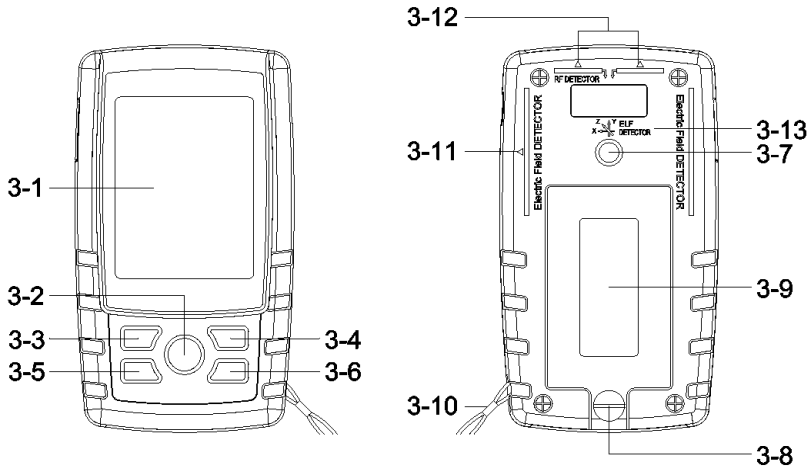

Fig. 1
(3-2, Fig. 1) > 1.5 seconds continuously.
* *Pressing the " Power Button " (3-2, Fig. 1)
During the measurement, press the " Hold Button " (3-3, Fig. 1) once will hold the measured value & the " HOLD Symbol " indicator will be light, Press the " Hold Button " once again will release the data hold function , (3-3, Fig. 1) red led indicator will be quenched
- 1) The data record function records the maximum and minimum readings. Press the " REC Button " (3-4, Fig.1) once to start the Data Record function and there will be a " REC "Symbol indicator " will be light.
- a) Press the " REC Button " (3-4, Fig. 1) once, the " REC and MAX Symbol indicator will be light , and the maximum value will appear on the display.
- b) Press the " REC Button " (3-4, Fig. 1) again, the " REC and MIN "Symbol indicator will be light , and the minimum value will appear on the display.
Depending on the brightness of the environment, can use the "Backlight Button " (3-2, Fig. 1) select from 3rd-order LCD Backlight brightness.
Under do not execute the Datalogger function, press the " SET Button " (3-5, Fig. 1) continuously at least 1.5 seconds will enter the " Advanced Setting " mode. then press the " SET Button " (3-5, Fig. 1) once a while display will show :
During execute the " Advanced Setting " function,if press " Power Button " (3-2, Fig. 1) once will exit the " Advanced Setting " function, the lcd display will return to normal screen.
1) Press "Enter(REC button)" into the setting function,then use the " ▲ Button " (3-5, Fig. 1) or " ▼ Button " (3-6, Fig. 1) to select the upper value to " Yes " or " No " .
2) After select the upper text to " Yes " or " No " , press the " Enter(REC Button) " (3-4, Fig. 1) will save the setting function with default and Return to the previous leve.
3) After press the " Power Button " (3-2, Fig. 1) will back to nomal measurement
- 1) Press "Enter(REC button)" into the setting function, then use the " ▲ Button " (3-5, Fig. 1) or " ▼ Button " (3-6, Fig. 1) to select the upper value to " Yes " or " No ".
- 2) After select the upper text to " Yes " or " No ", press the " Enter(REC button) " (3-4, Fig. 1) will save the setting function with default and Return to the previous level.
- 3) After press the " Power Button " (3-2, Fig. 1) will back to normal measurement
- 1) Press "Enter(REC button)" into the setting function, then use the " ▲ Button " (3-5, Fig. 1) or " ▼ Button " (3-6, Fig. 1) to select the LF unit to " uT " or " mG ".